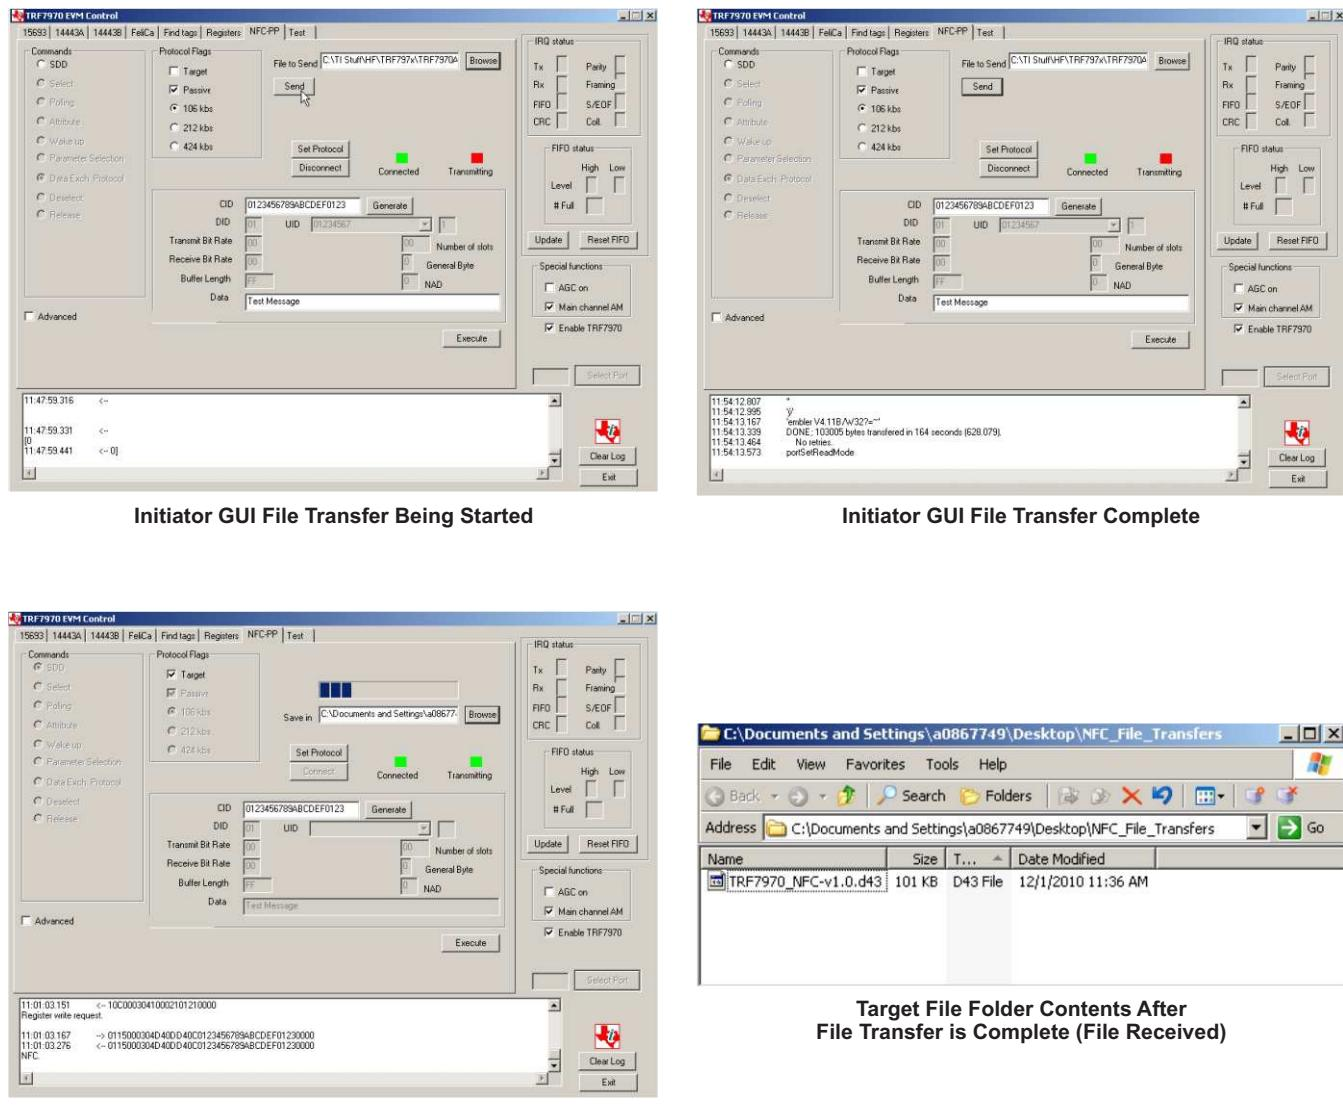

Figure 37. NFC File Transfer Progress
5. Click Send in the Initiator GUI (a status bar indicates activity) (see Figure 37).